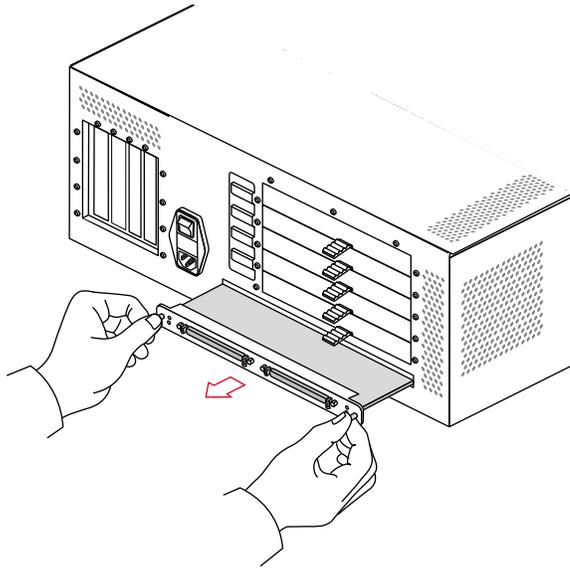

Figure 5-42 Removing the Crosstown Board
3. Pull the board out of the chassis, as shown in Figure 5-42. You may have to pry the board slightly using a small, flat-bladed screwdriver.